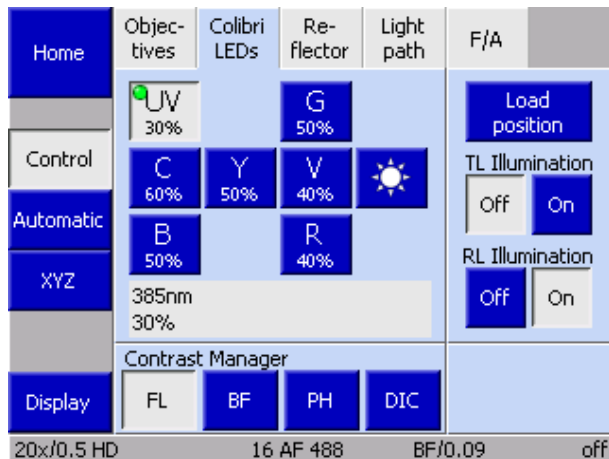

Fig. 13 TFT display, page "Colibri LEDs": one LED switched on and activated for brightness adjustment
- Select the **Colibri LEDs** page on the TFT display of the microscope: Press **Microscope** -> **Control** -> **Colibri LEDs** (see Fig. 13).